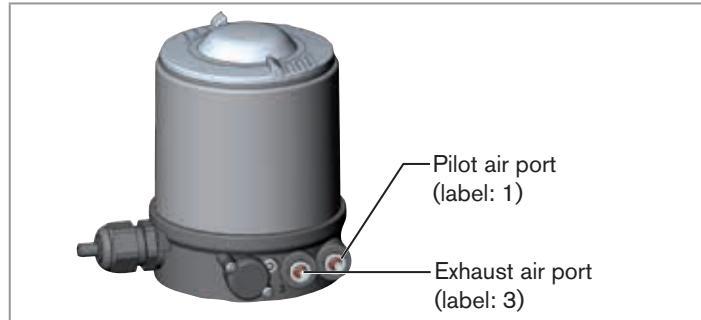

Fig. 11: Pneumatic connection
- Connect the control medium to the pilot air port (1) (3 – 7 bar; instrument air, free of oil, water and dust).
- Attach the exhaust airline or a silencer to the exhaust air port (3) (see "Fig. 11: Pneumatic connection").